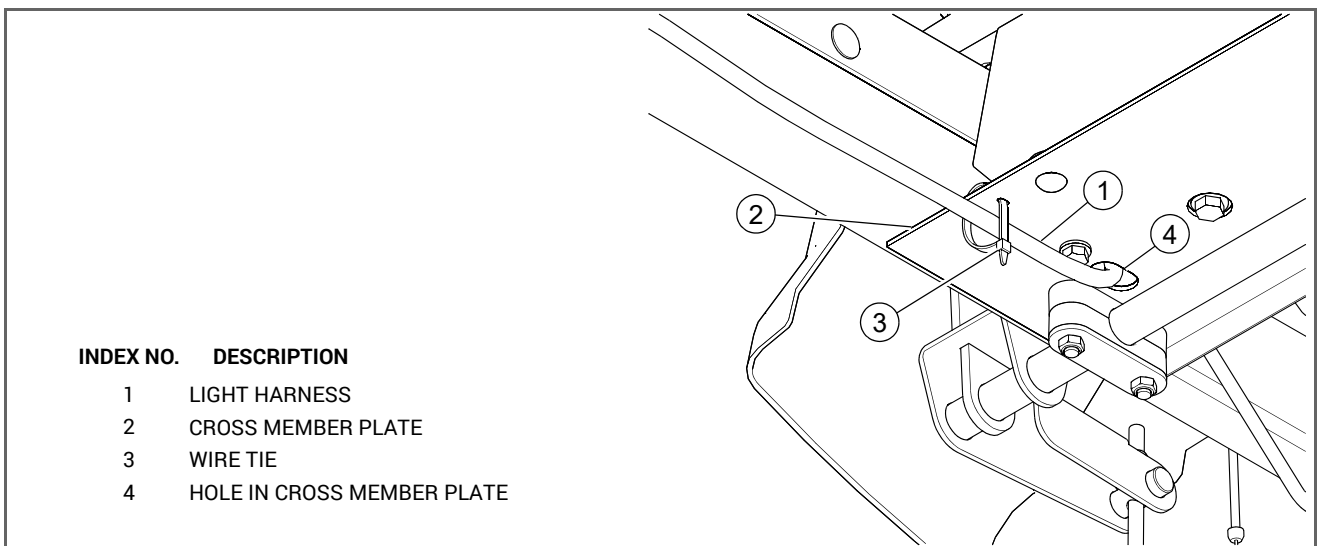

FIG. 5
8. Insert the light harness up through the hole in the cross member plate as shown. FIG. 5